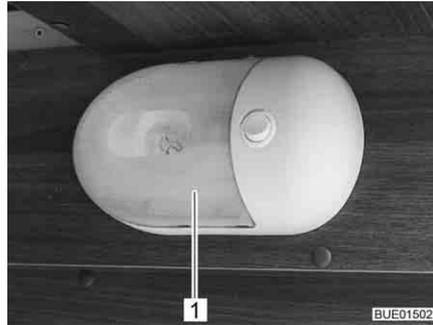

Fig. 219 Garage light
- Carefully push the transparent cover (Fig. 219,1) together from both sides, pull it lightly from the switch and pull it off forwards.